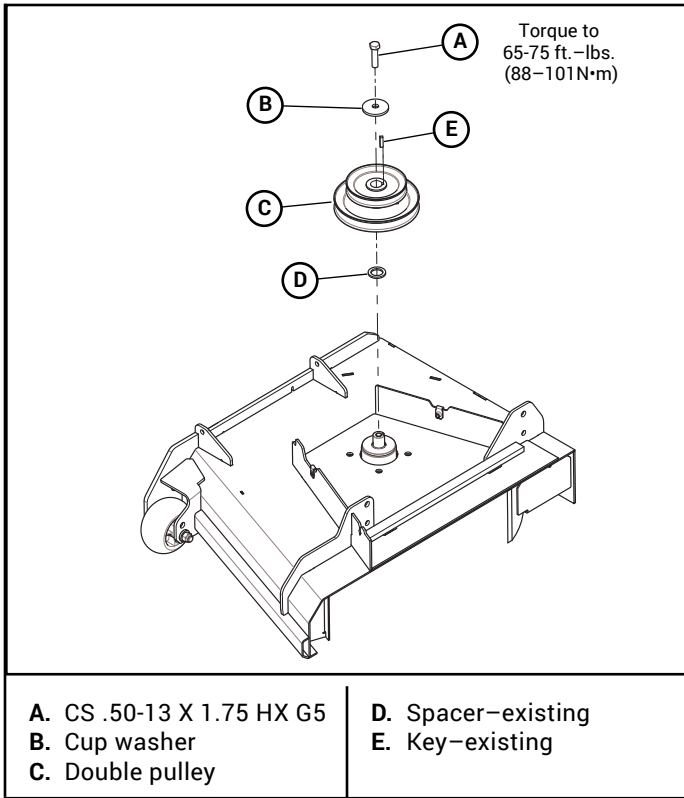

Figure 3-22
- Replace the pulley with the double pulley and place the new cup washer between the head of the new bolt and the drive pulley. Thread the cup washer and bolt assembly into the spindle shaft. Torque the bolt to 65–75 ft.-lbs (88–101N•m). Figure 3-22